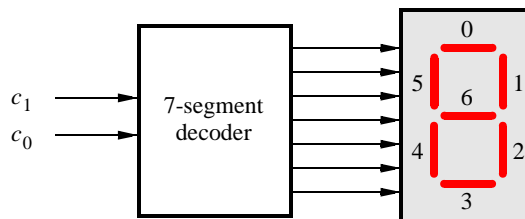

Figure 6. A 7-segment decoder.
Figure 6 shows a 7-segment decoder module that has the two-bit input c_1c_0 . This decoder produces seven outputs that are used to display a character on a 7-segment display. Table 1 lists the characters that should be displayed for each valuation of c_1c_0 . To keep the design simple, only three characters are included in the table (plus the 'blank' character, which is selected for codes 11).
2. Create a VHDL entity for the 7-segment decoder. Connect the c_1c_0 inputs to switches SW_{1-0} , and connect the outputs of the decoder to the $HEX0$ display on the DE board. The segments in this display are called $HEX0_0, HEX0_1, \dots, HEX0_6$, corresponding to Figure 6. You should declare the 7-bit port